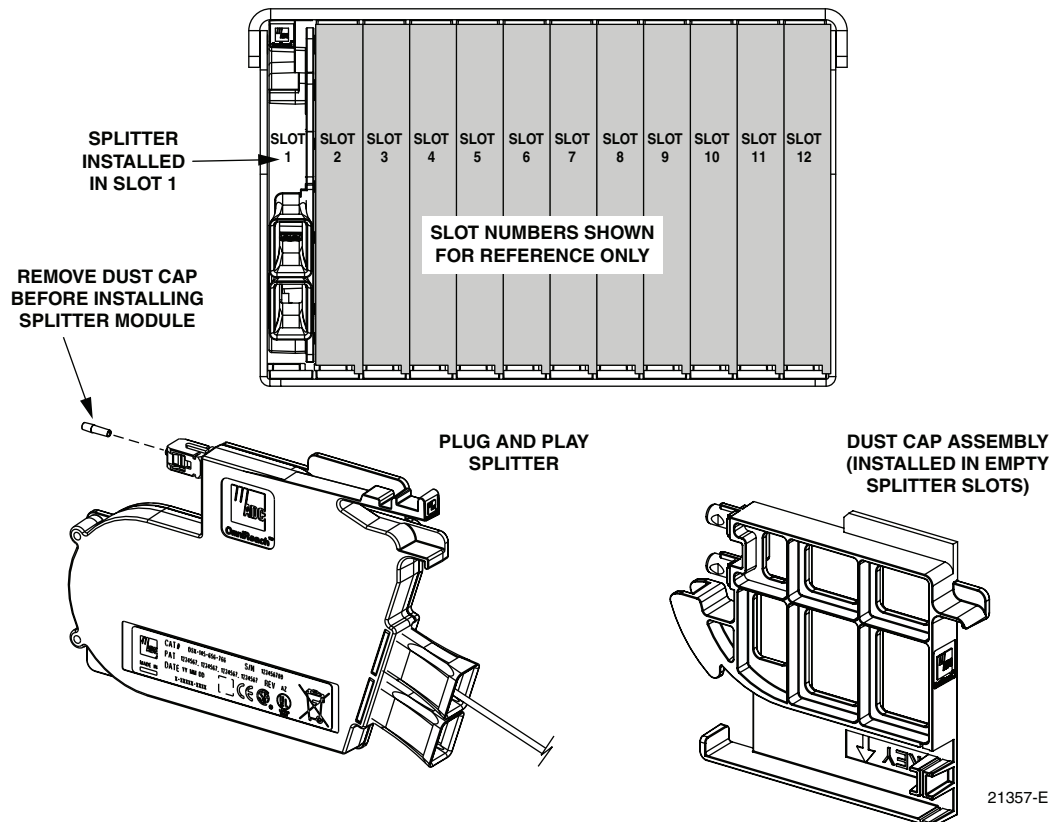

Figure 9. Splitter Module Mounting Slots
1. Locate the next available splitter mounting position as shown in Figure 9.
6. Remove the dust cap from the splitter connector (see Figure 9).